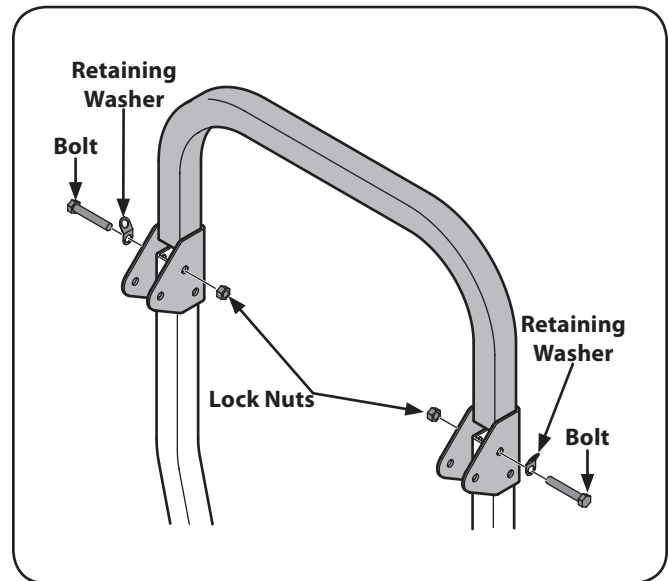

Figure 3-4
4. Install the upper ROPS section onto the lower ROPS “posts”. Install the bolts, retaining washers and lock nuts. See Figure 3-4.